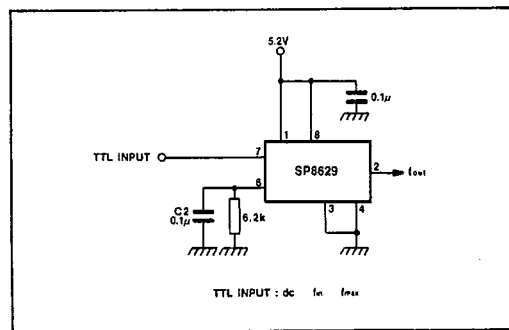

Fig.7 TTL input (DC  $I_{in} < I_{max}$ )
4. The input waveform will normally be sinusoidal but below 10MHz correct operation depends on the slew rate of the input signal. A slew rate of  $50V/\mu s$  will enable the device to operate down to DC. The device will operate with a TTL input signal as shown in Fig. 7 and is DC coupled to the input. The device can be used in phase locked loop applications such as FM radio or other communications bands to prescale the input frequency down to a more useable level. A digital frequency display system can also be derived separately or in conjunction with a phase locked loop, and it can extend the useful range of many inexpensive frequency counters to, typically, 200MHz.